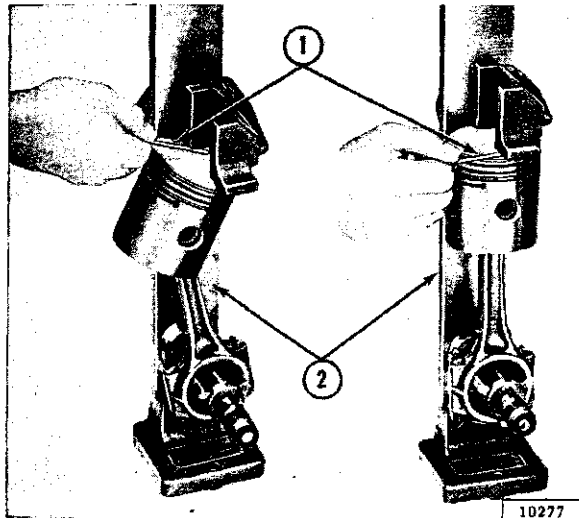

FIG. D-11—CHECKING PISTON AND CONNECTING ROD ALIGNMENT
d. Place piston and rod assembly in a connecting rod aligning fixture and check alignment of the assembly as shown in Fig. D-11. Follow instructions furnished with the fixture.